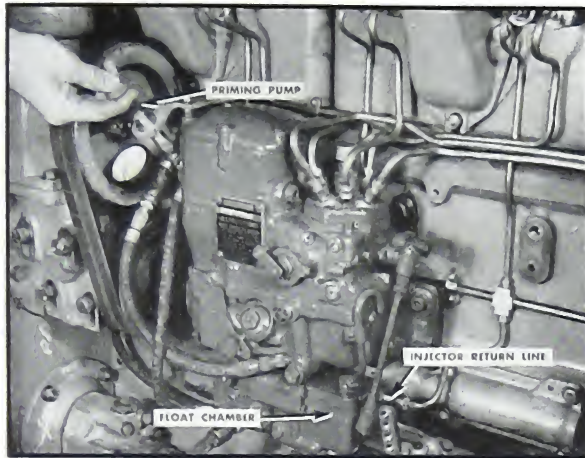

Fig. 12-36. Priming float chamber
DD FUEL PUMP: All fuel passages in the entire fuel system must be full of fuel before starting the engine. "Empty" fuel lines are full of air, and the air must be displaced by priming. Priming will be necessary when the engine is started the first time, after it runs out of fuel or at any time air is allowed to enter the system. Priming also assures initial lubrication to the bearings and bushings. Refer to Figures 12-36, 12-37 and 12-38 for the following operations.
4. Open priming pump, and pump until solid fuel flows out this opening in the fuel pump. (Fig. 12-36).